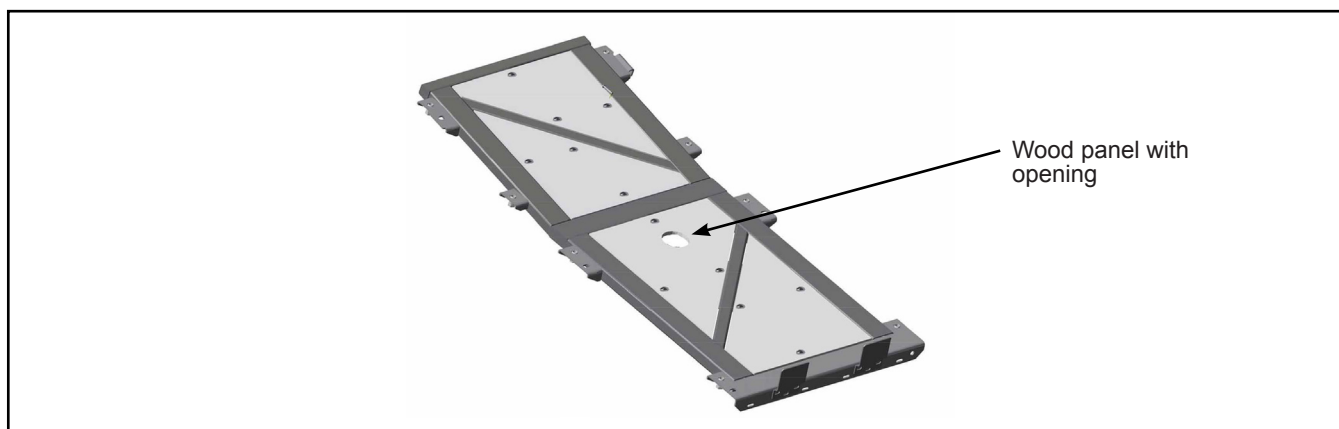

Figure 1 - Cradle with Wood Panels
- 1.1. Install wood panels on top of the cradle. Ensure that the wood panel with an opening is installed as shown in Figure 1.